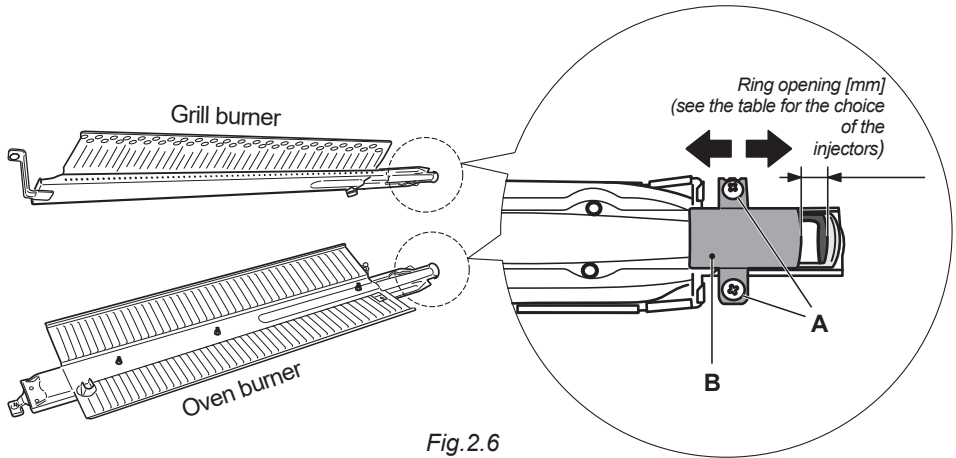

Fig.2.6
- Using a cross-head screwdriver, slacken the screws “B” securing the air flow regulation collar “A” (fig. 2.6) and move the collar forward or backward to increase or reduce the air aperture in accordance with gas type and the indications in the ‘Table for the choice of the injectors’.